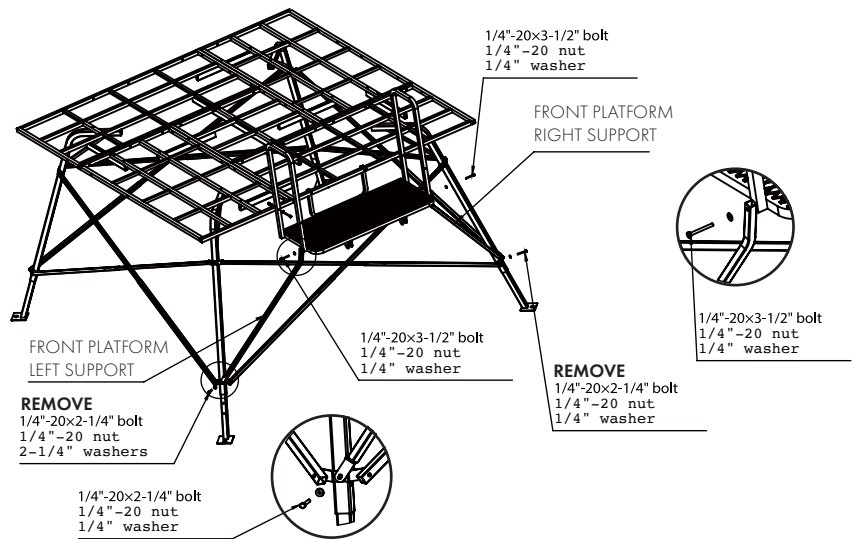

FIGURE 11
Remove (2) 1/4"-20 x 2-1/4" bolts, (2) 1/4" lock nuts and (4) 1/4" flat washers as shown. Attach the **FRONT PLATFORM LEFT SUPPORT (#13)** and the **FRONT PLATFORM RIGHT SUPPORT (#14)** to the **FRONT PLATFORM (#11)** and the **TIE ROD CONNECTING PLATES (#6)** by using (2) 1/4"-20 x 2-1/4" bolts, (2) 1/4"-20 x 3-1/2" bolts, (4) 1/4" lock nuts and (8) 1/4" flat washers (Figure 11). **Be sure to not over tighten.**